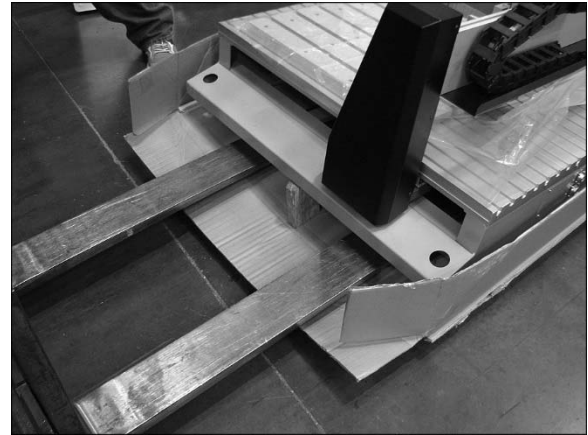

Figure 7-16
1. Place a scrap block beneath router assembly to hold it up, and slide forks carefully beneath router table base (Figure 7-16). Make sure forks are long enough to extend past opposite end of table. Raise router table.